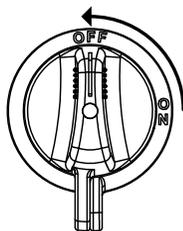

Figure 39. Battery Switch (OFF)
5. After placing the Control Power switch in the OFF position, wait 30 seconds, then place the **Battery switch** (Figure 39) in the **OFF** position.